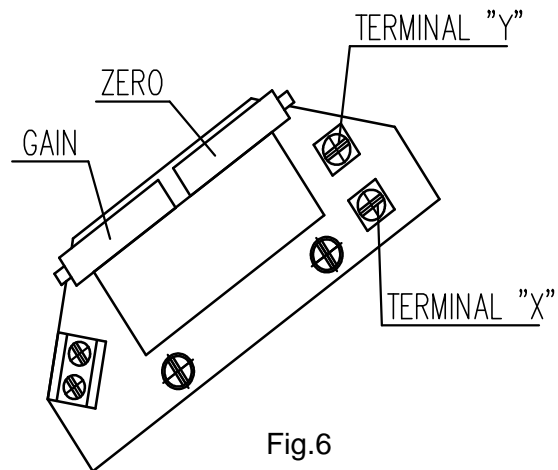

Fig.6
1.1.1. EPV – the 2-wire version (Fig. 6,6a)
- Adjust the resistive transmitter according to the previous chapter. The resistance is to be metered on the terminals X-Y (Fig. 6,6a). The used transmitter resistance is 100 Ω .
- Adjust the resistive transmitter according to the previous chapter. The resistance is to be metered on the terminals X-Y (Fig. 6,6a).